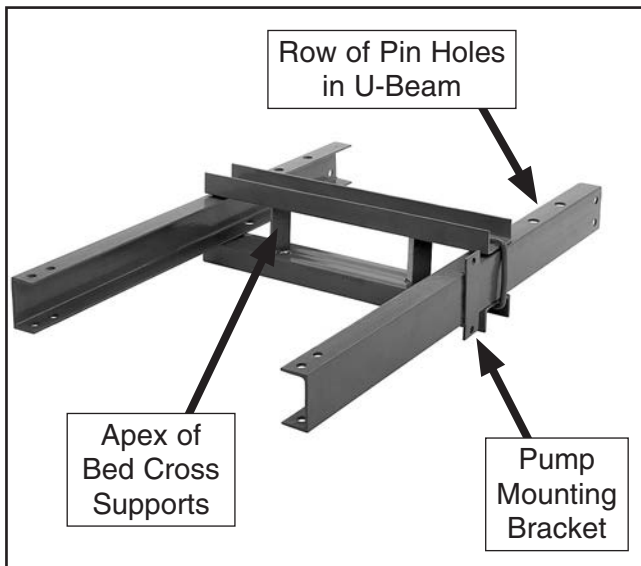

Figure 5. Bed installed.
2. Place both U-beams parallel on the floor so the flanges are facing one another and both beams have their row of pin holes at the same end, as shown in **Figure 5**.
Make sure that the bed is positioned below the pump mounting bracket on the end of the rails where the rows of pin holes are located, as shown in **Figure 5**.